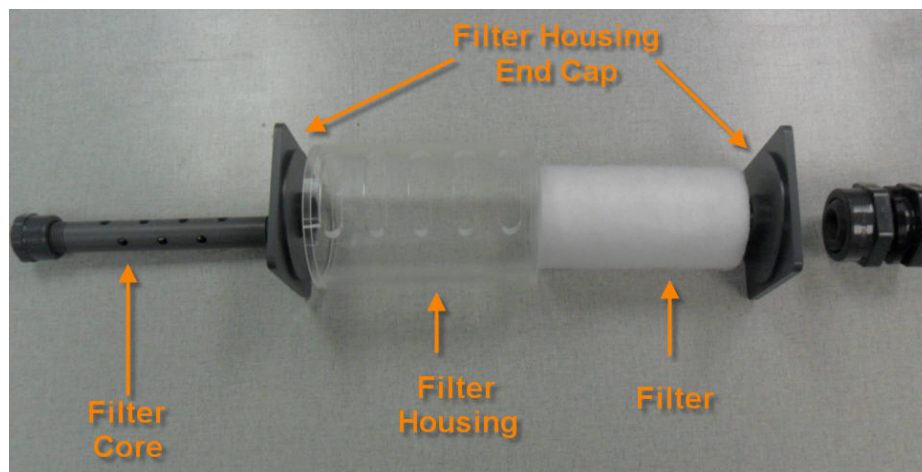

Figure: 9-2
1. Unscrew the Filter Core Assembly and remove it from the Tank along with the filter, filter element, and filter housing end caps (see *Figure 9-2*).